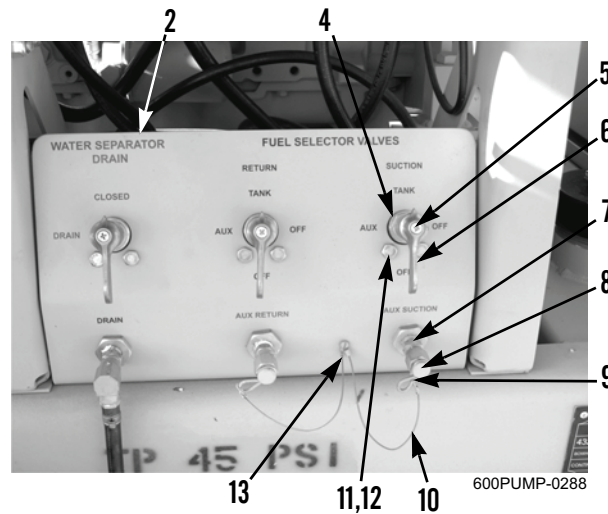

Figure 2. Fuel Selector Panel and Fuel Selector Valve.
2. Remove screw (Figure 2, Item 5) and handle (Figure 2, Item 6) from fuel suction selector valve (Figure 2, Item 4).
3. Remove two bolts (Figure 2, Item 11) and locknuts (Figure 2, Item 12) from fuel suction selector valve (Figure 2, Item 4) and fuel selector panel (Figure 2, Item 2). Discard locknuts.
4. Remove cap (Figure 2, Item 8) from AUX suction inlet fitting (Figure 2, Item 7).
5. Remove S-hook (Figure 2, Item 9) and lanyard cable (Figure 2, Item 10) from cap (Figure 2, Item 8).
6. If necessary, remove screw (Figure 2, Item 13) and lanyard cable (Figure 2, Item 10) from fuel selector panel (Figure 2, Item 2).